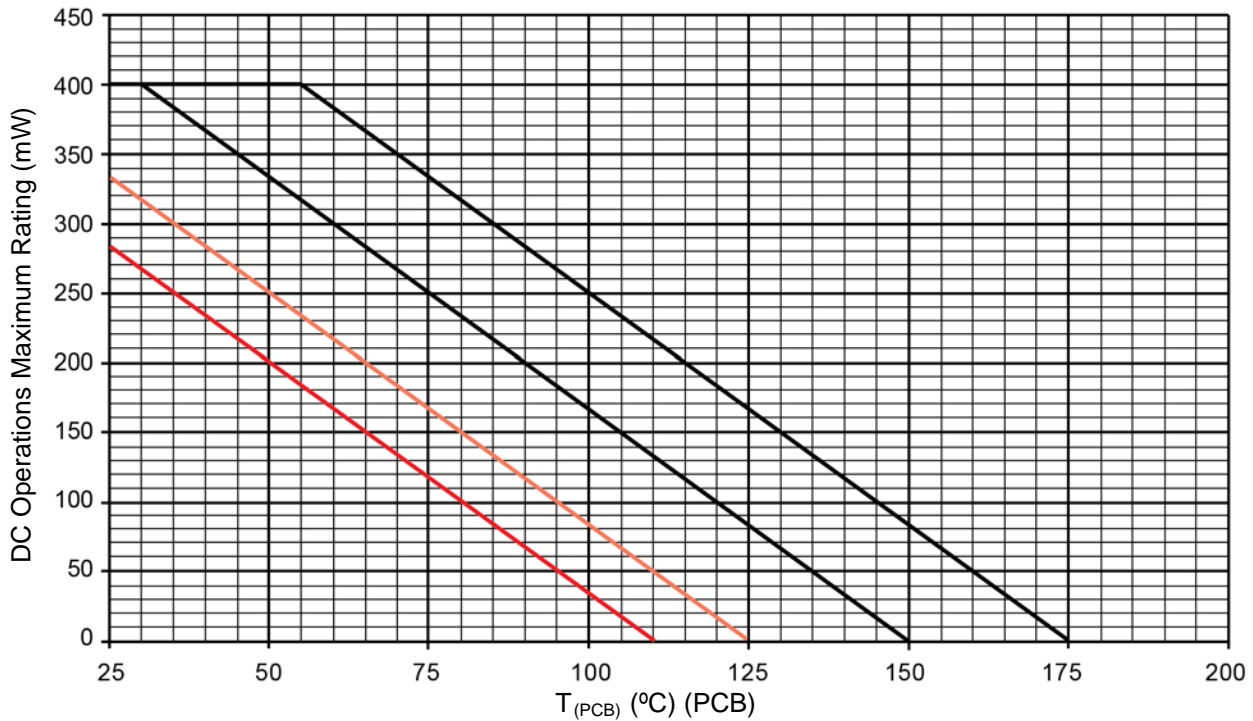

FIGURE 2
2. The 0.5 W linearly derates starting at $T_{EC} = 125^{\circ}C$ and goes to zero at $175^{\circ}C$. For ambient T_A condition on a typical PC board, it linearly derates from 400 mW starting at $55^{\circ}C$ and goes to zero at $175^{\circ}C$ (see Figure2).